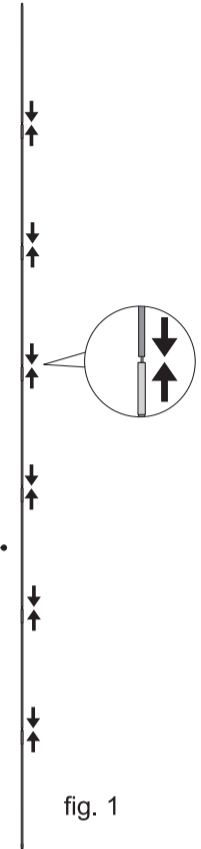
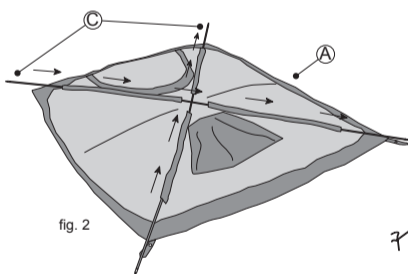
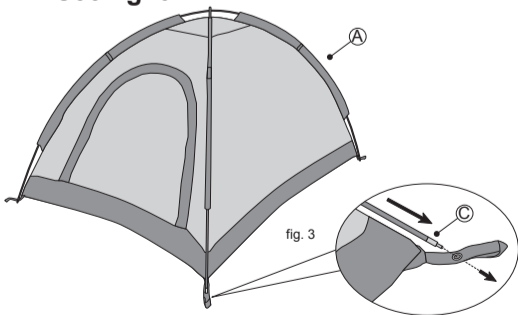

fig. 1
fig. 2
fig. 3
1. Open the Tent Bag (B), take out and separate each of the components inside.
2. Assemble the two Black Fibreglass Poles (C). These poles are for the main structure of the tent.
**See fig. 1.**
3. Slide the Black Fibreglass Poles (C) through the sleeves in Tent (A).
**See fig. 2.**
4. Carefully bend the Black Fibreglass Poles (C) fitting each of the ends into the rings in the corners of the Tent (A).
**See fig. 3.**
5. Secure the completed Tent by pegging the Guy Ropes into the ground using Pegs (A). Care must be taken not to bend the Pegs, use a rubber mallet if the ground is hard.